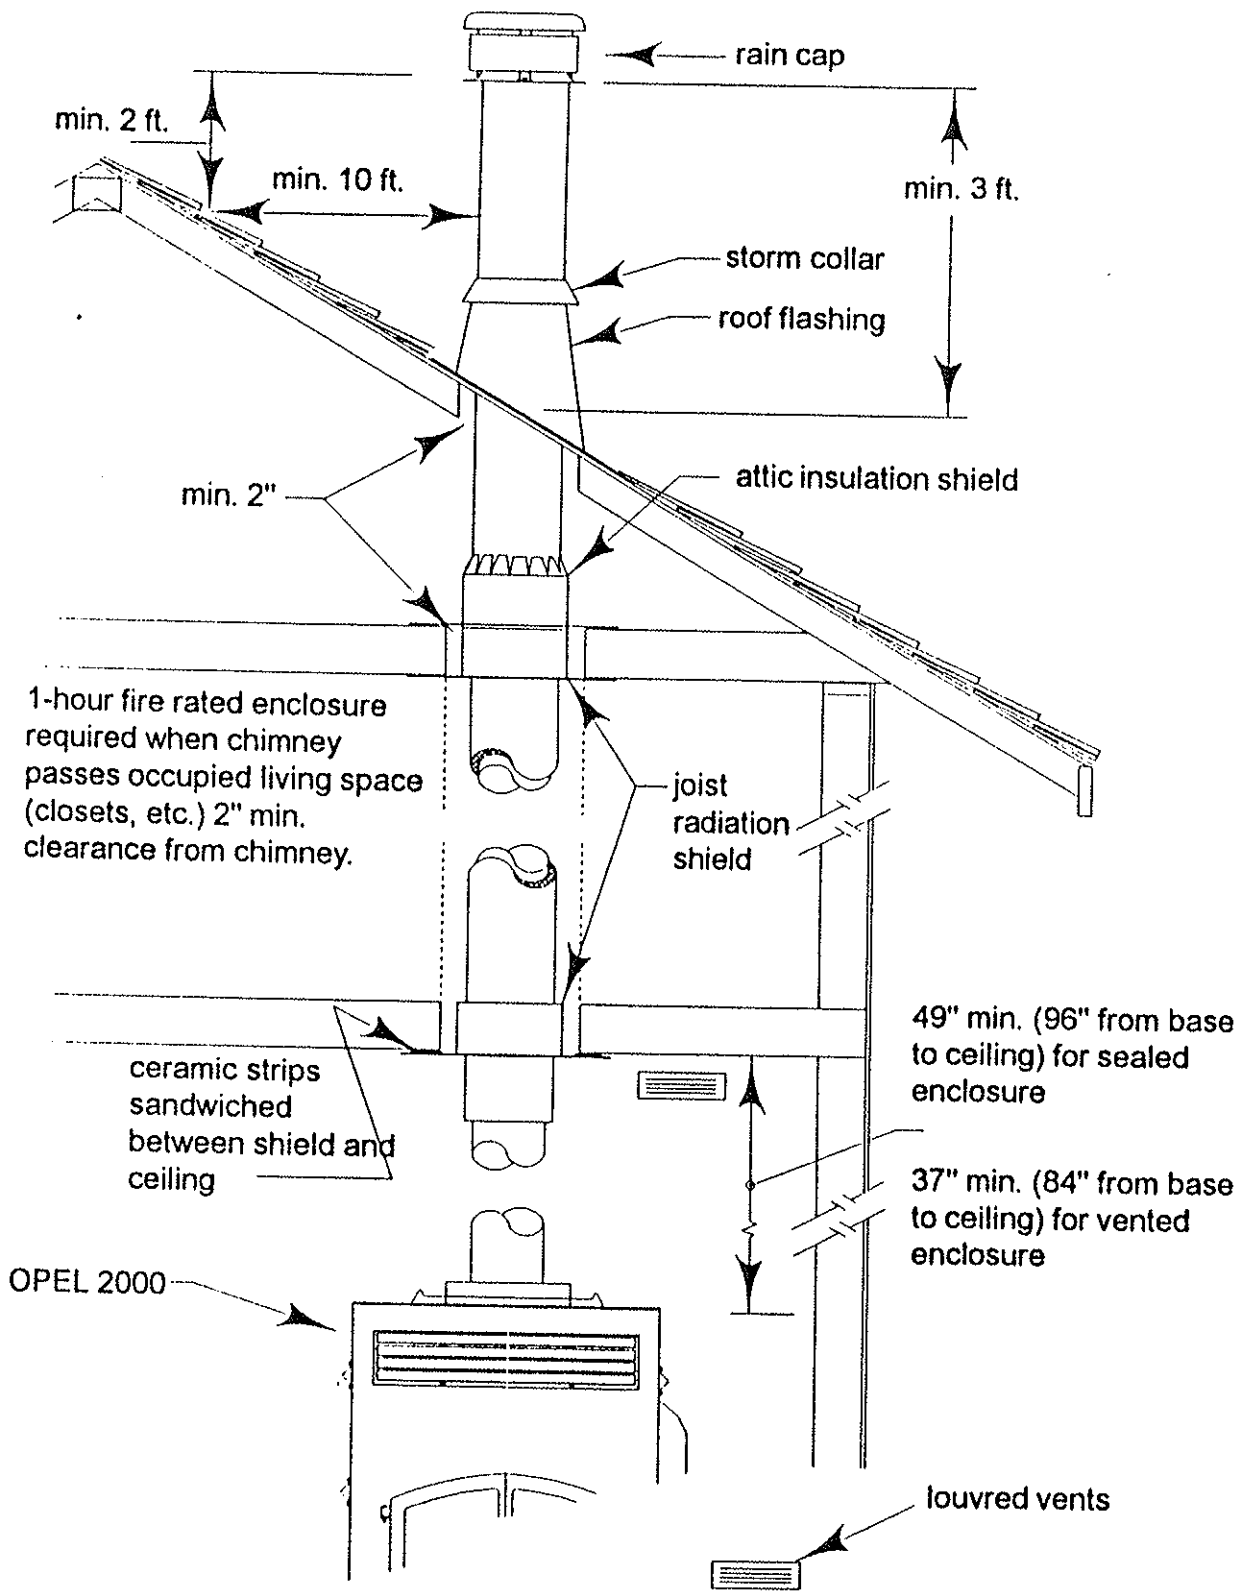

Figure 9: Chimney installation
2. From below, install a radiation shield in each floor through which the chimney passes. At the attic level, install an attic insulation shield as shown in Figure 9. The first radiation shield above the fireplace must have strips of ceramic felt stapled between the shield and the ceiling, to eliminate excessive heat transfer. These strips are supplied with the fireplace.